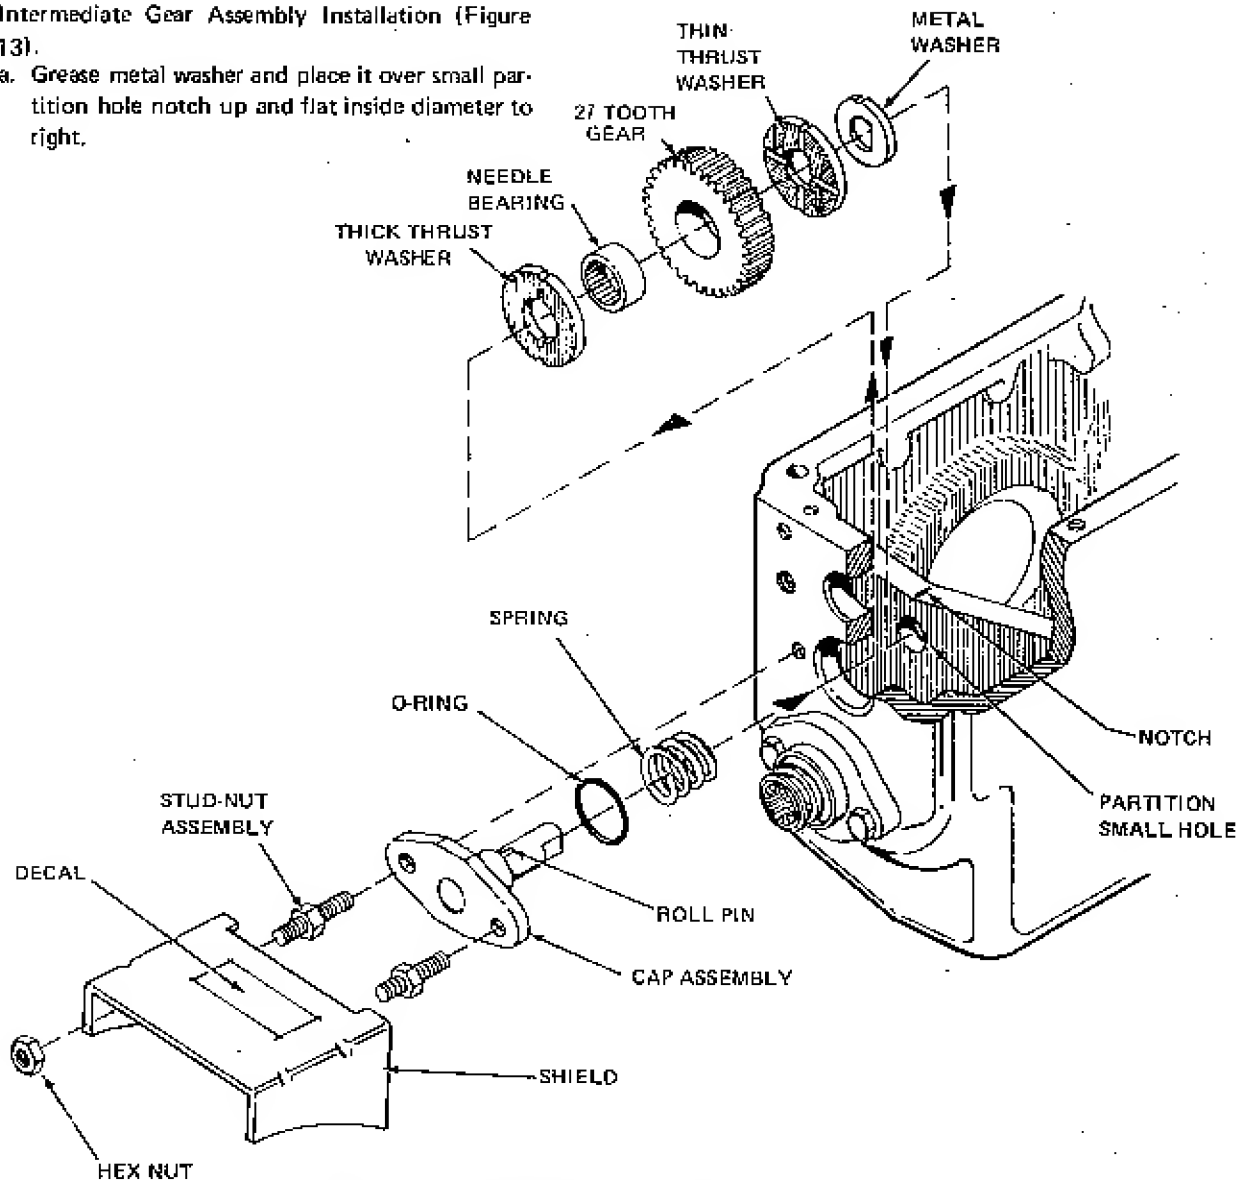

Figure 13. Intermediate Gear Installation
5. Intermediate Gear Assembly Installation (Figure 13).
- e. Assemble thick and thin thrust washers and gear assembly as shown in Figure 13 between partition and transmission case wall, aligning washer and gear holes. Be sure thrust washers have notches up, grooves facing gear assembly and that thick thrust washer is to the outside next to spring.